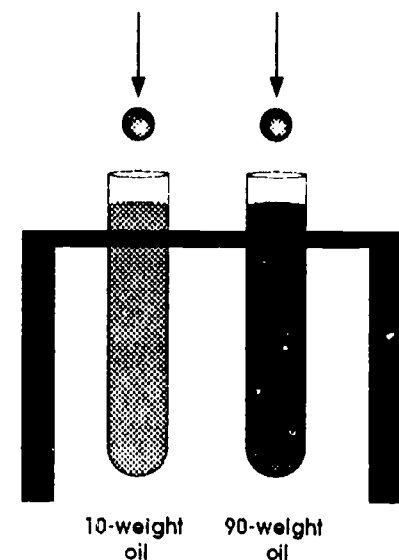

Figure 2. Drop a ball bearing into each test tube.
8. With a stopwatch ready, drop a ball bearing into each test tube (see Figure 2). Note the time it takes each ball bearing to reach the bottom of the test tube. Record your observations on page 4.